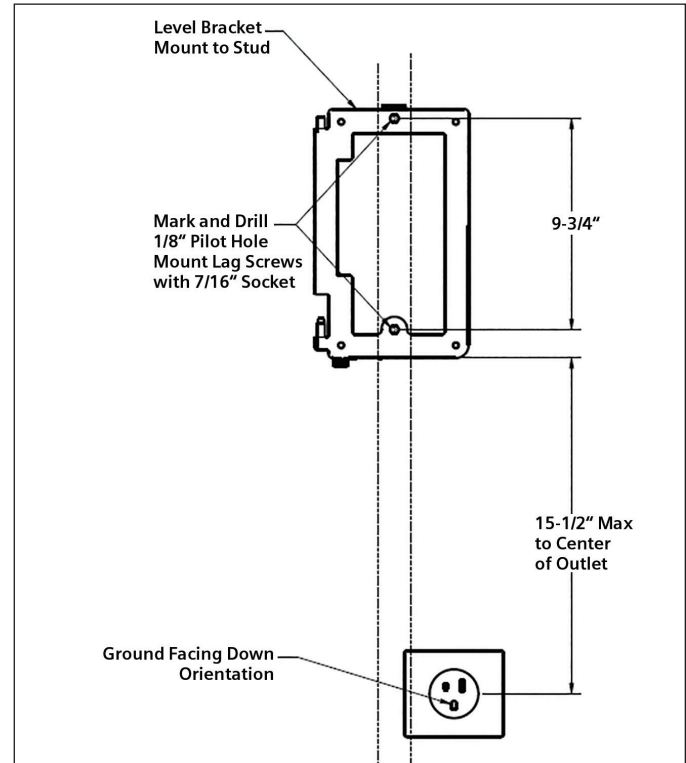

Figure 1. Align mounting bracket and screw into the stud
1. A qualified electrician should install the outlet with the ground facing down (only the 40A charger is available with a plug, the 48A charger MUST be hardwired). See Section 2.2, Figure 1, for outlet positioning.